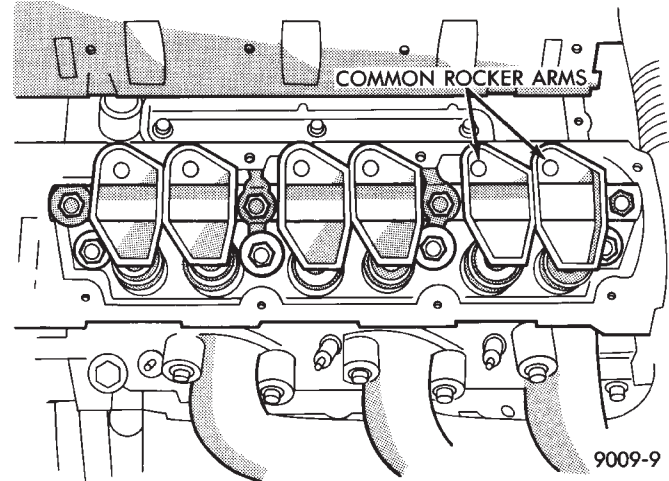

Fig. 5 Rocker Arm Location Left Blank
- (1) Remove upper intake manifold assembly. Refer to Intake and Exhaust Manifolds, Group 11.
- (2) Disconnect spark plug wires by pulling on the boot straight out in line with plug.
- (3) Disconnect closed ventilation system and evaporation control system from cylinder head cover.
- (4) Remove cylinder head cover and gasket.
- (5) Remove four rocker shaft bolts and retainers.
- (6) Remove rocker arms and shaft assembly.
- (7) If rocker arm assemblies are disassembled for cleaning or replacement. Assemble rocker arms in their original position refer to (Fig. 5) for rocker arm for positioning on the shaft.
- (1) Install rocker arm and shaft assemblies with the stamped steel retainers in the four positions, tighten to 28 N•m (250 in. lbs.) (Fig. 5).
- (2) Clean cylinder head cover gasket surface. Inspect cover for distortion and straighten if necessary.
- (3) Clean head rail if necessary. Install a new gasket and tighten cylinder head cover fasteners to 12 N•m (105 in. lbs.).
- (4) Install closed crankcase ventilation system and evaporation control system.
- (5) Install spark plug wires.
- (6) Install upper intake manifold assembly. Refer to Exhaust Systems and Intake Manifolds Group 11.